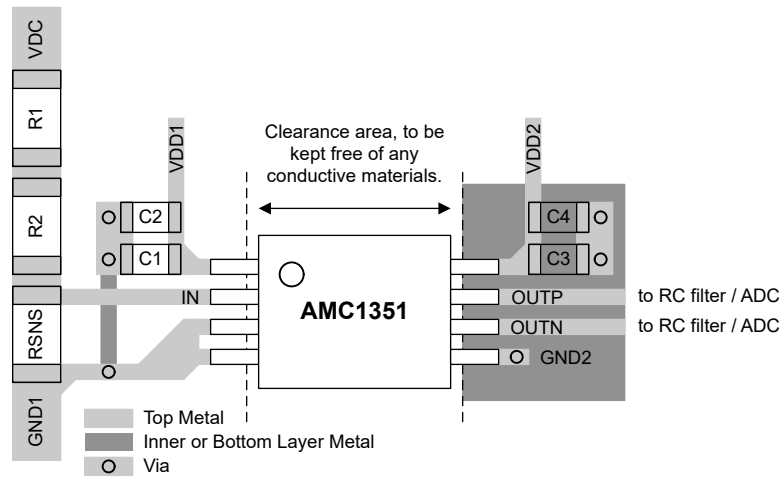

图 10-1. Recommended Layout of the AMC1351
Figure 10-1 shows a layout recommendation with the critical placement of the decoupling capacitors (as close as possible to the AMC1351 supply pins) and placement of the other components required by the device. For best performance, place the sense resistor close to the device input pin (IN).